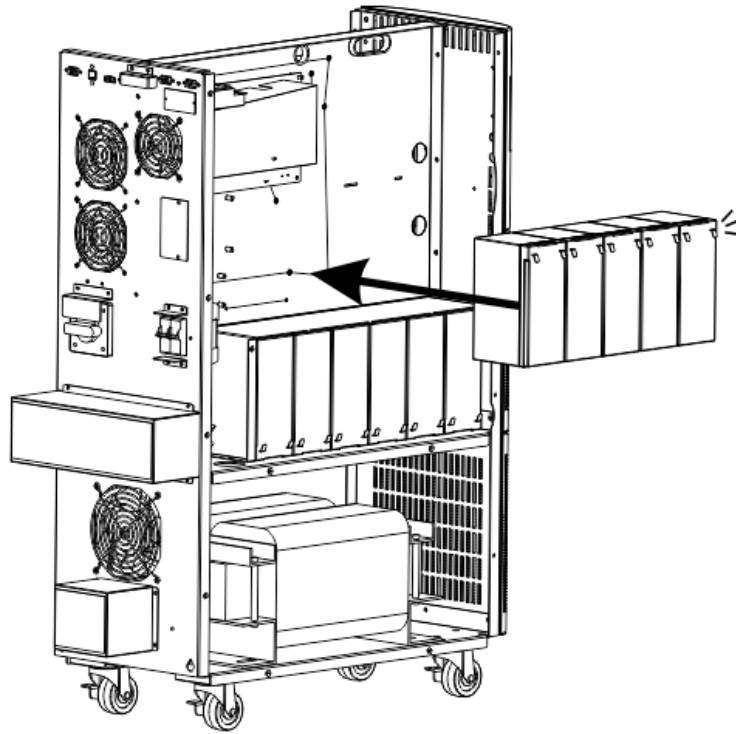

FIG. 9
20. Install the new batteries on the second row (FIG. 9). **NOTE:** The battery terminals **MUST** be on the top side.